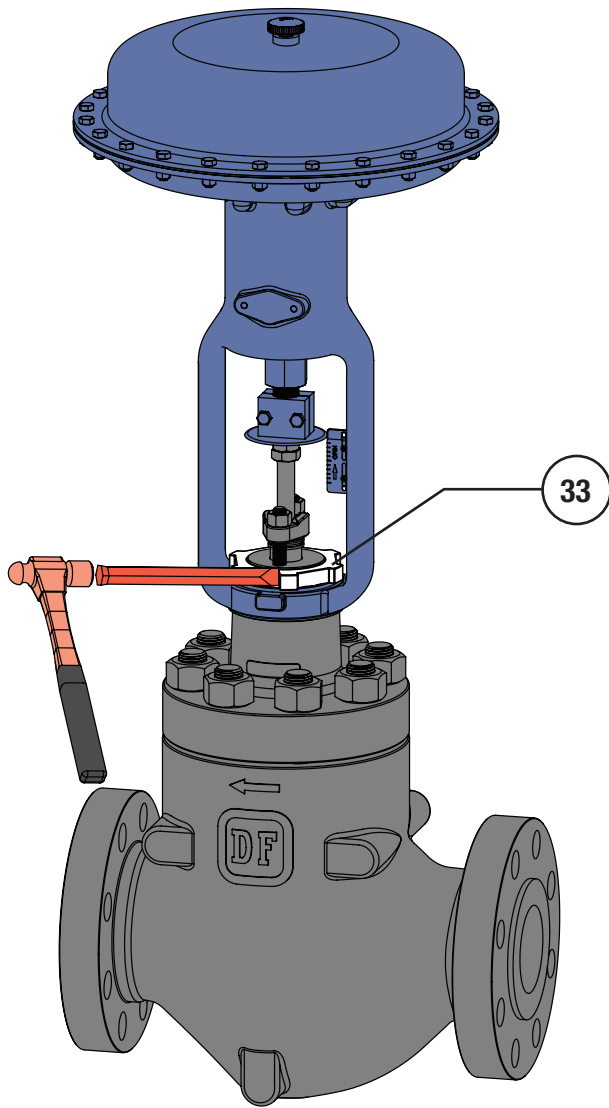

Figure 4 Yoke Nut Loosening Technique
- 6 Use a blunted heavy chisel to loosen the yoke nut (Key 44). Unscrew the yoke nut and remove the actuator from the valve. If the actuator was energized during removal, de-energize the actuator (Refer to Figure 4).